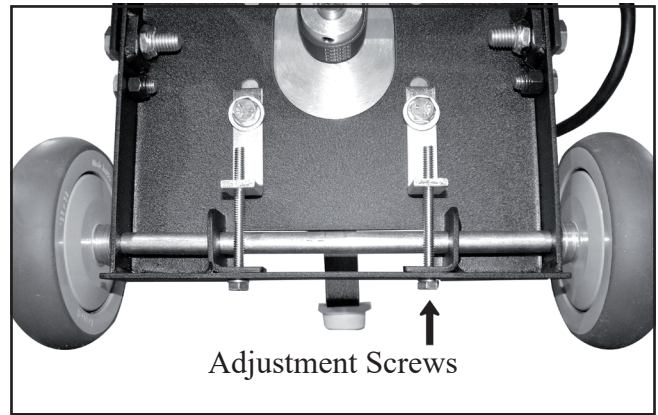

Figure 6
1. Loosen bolts holding the drive motor to the frame. **DO NOT REMOVE (fig 6)**